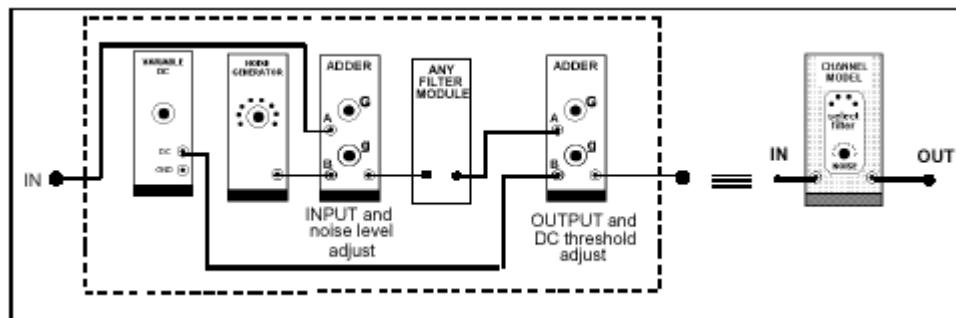
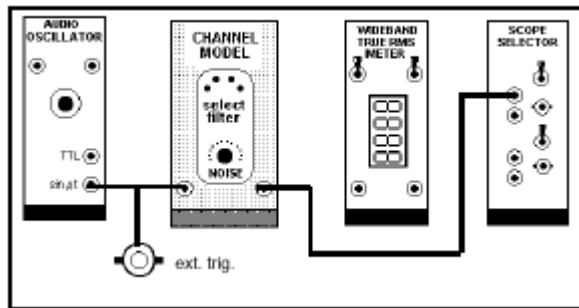

Figure 3: Details of the macro CHANNEL MODEL module
Figure 10: Measurement of signal-to-noise ratio
Thus the CHANNEL MODEL is built according to the patching diagram illustrated in Figure 3 below, and (noting *item 5* above) requires *four* slots in a system unit.
Within the test set up you will use the macro CHANNEL MODEL module already defined. It is shown embedded in the test setup in Figure 10 below.
T7 set up the arrangement of Figure 10 above. Use the channel model of Figure 3. In this experiment use a BASEBAND CHANNEL FILTERS module (select, say, filter #3).